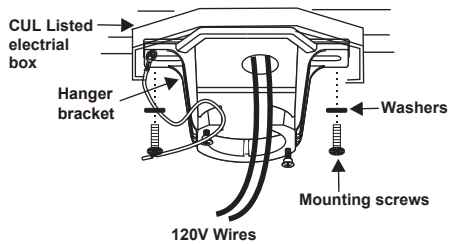

Figure 8
Step 1. Pass the 120-volt supply wires through the center hole in the ceiling hanger bracket as shown in Fig. 8.